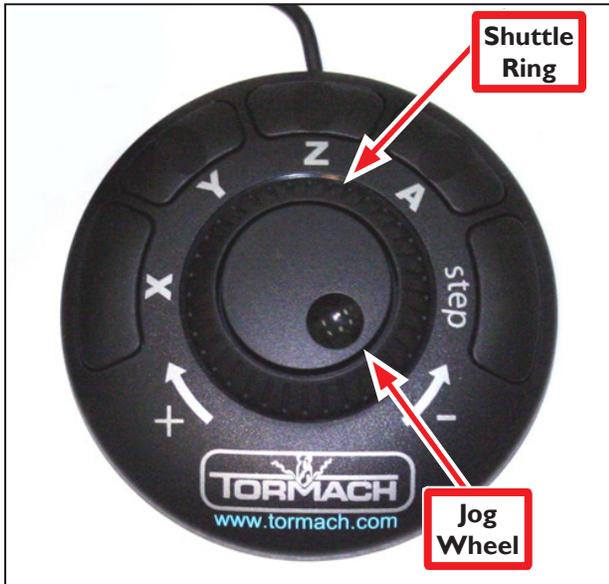
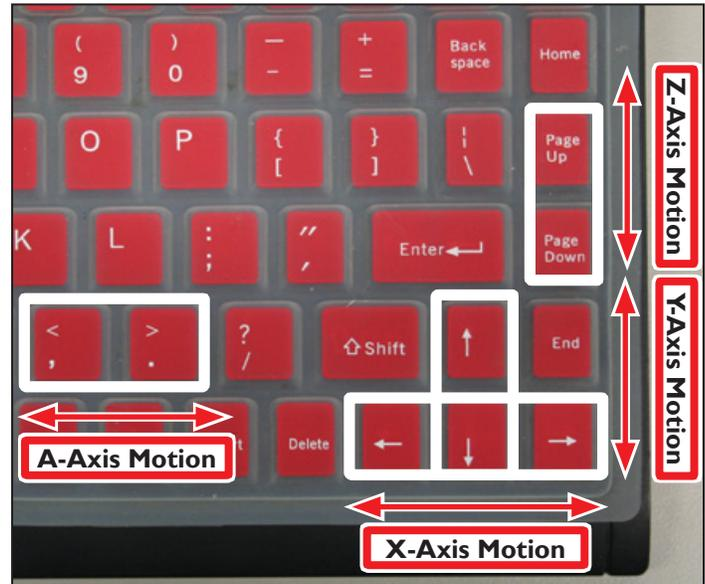

Figure 6.5
Figure 6.6
Tormach mills can be jogged with either the Jog Shuttle shown in **Figure 6.5** or with the keyboard's arrow keys (see **Figure 6.6**):
The Jog Shuttle is an optional accessory (see **Figure 6.5**) that may increase productivity, especially on short-run jobs requiring extensive setting up of the workpiece and tooling.
**Continuous Mode** – In *Continuous* mode the mill jogs at a continuous velocity when you press and hold any one keyboard arrow key; stop the mill by releasing the key. Axis motion is key specific as shown in **Figure 6.6**. The velocity is set using the *Jog Speed Slider* (see **Figure 6.7**). To set jogging velocity to the maximum speed, click and drag the *Jog Speed Slider* to the far right position.